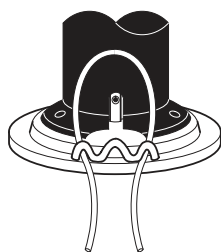

Figure 13
7.5.6 Thread the ends of the new trimmer line through the outside loops (See Figure 13).